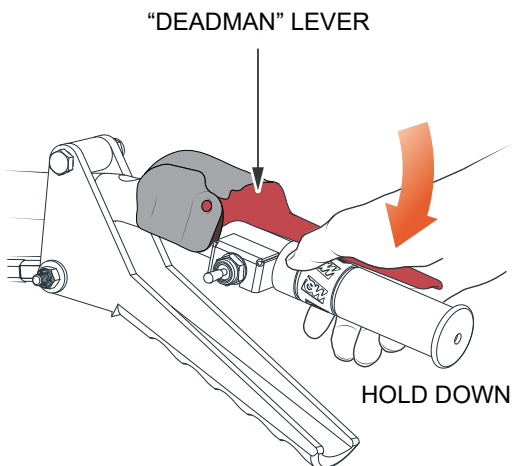

Figure 10. Deadman Lever
5. With the machine running, fully squeeze the **RED** deadman lever (Figure 10) and hold down. When the lever is held down, a signal is sent to the motor controller to release the brake.